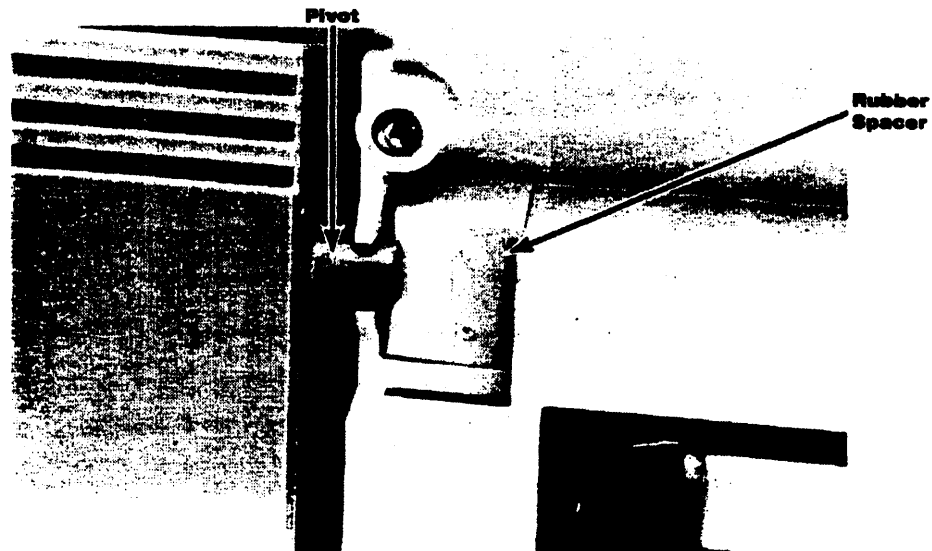

Figure 6-28a. Display-Assembly Details—Front
7. Insert the rubber spacer (if not present), its arrow pointing up, into its hole in the frame to the right of the right-hand display pivot. The rubber spacer should cover half of the pivot. See figure 6-28a.